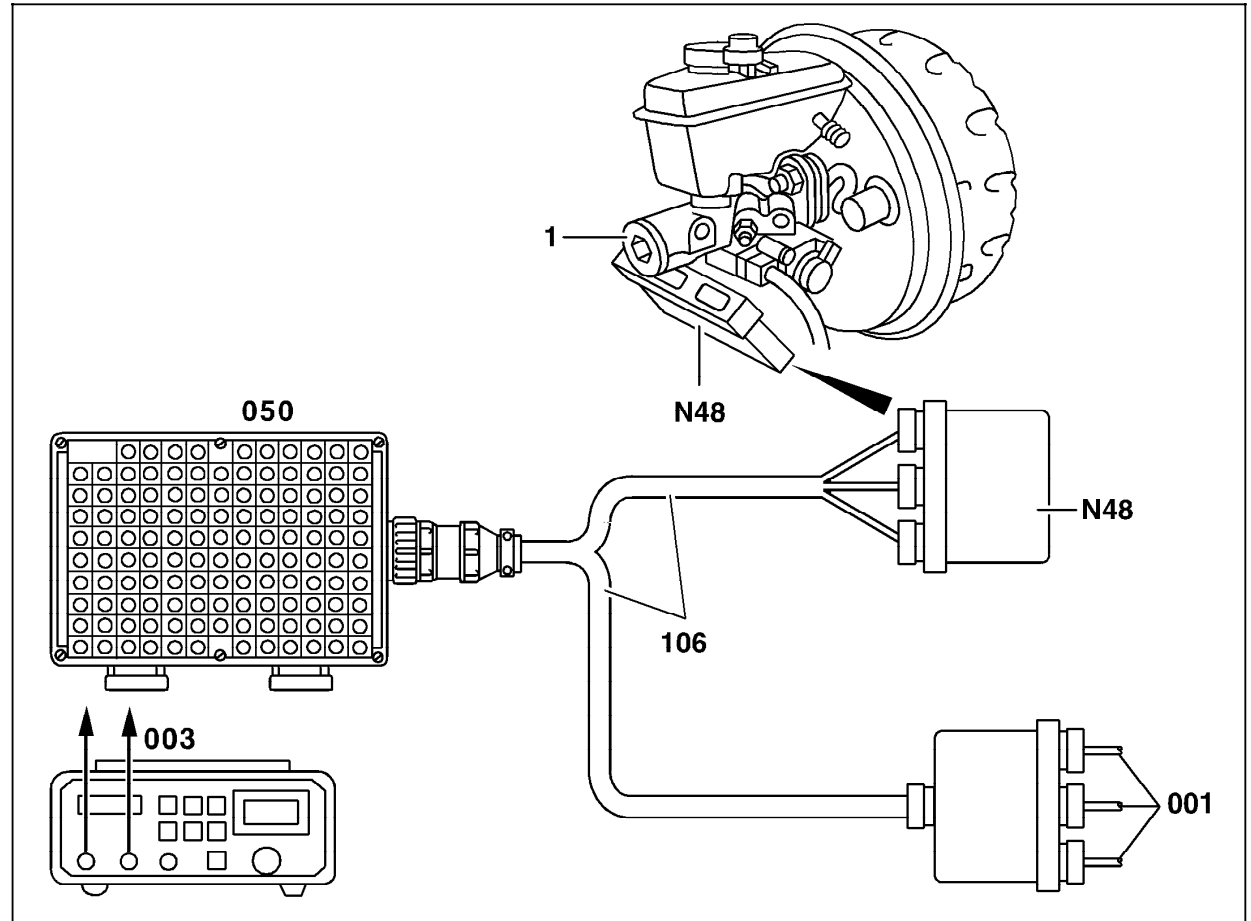

Figure 1
4. Connect socket box with test cable as per connection diagram (Figure 1).